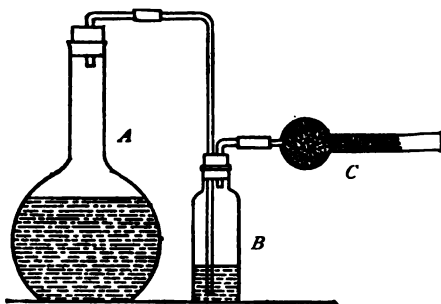

FIG. 52
**137. Alcohol.** The formation of alcohol and carbon dioxide from glucose may be shown as follows: About 100 g. of glucose is dissolved in a liter of water in flask *A* (Fig. 52). This flask is connected with the bottle *B*, which is partly filled with limewater. The tube *C* contains solid sodium hydroxide. A little baker's yeast is now added to the solution in flask *A*, and the apparatus is connected as shown in the figure. If the temperature is maintained at about 30°, the reaction soon begins, but it will not be completed for several days. The experiment can be finished at a later laboratory period. The bubbles of gas escape through the limewater in *B*. A precipitate of calcium carbonate soon forms in the limewater, showing the presence of carbon dioxide. The sodium hydroxide in tube *C* prevents the carbon dioxide in the air from acting on the limewater. The alcohol remains in the flask *A*. Connect the flask with a condenser (Fig. 24) and distill about 10 cc. of the solution. Pour this into an evaporating-dish and see whether it will burn. Test a few drops with the iodoform test (§ 124).